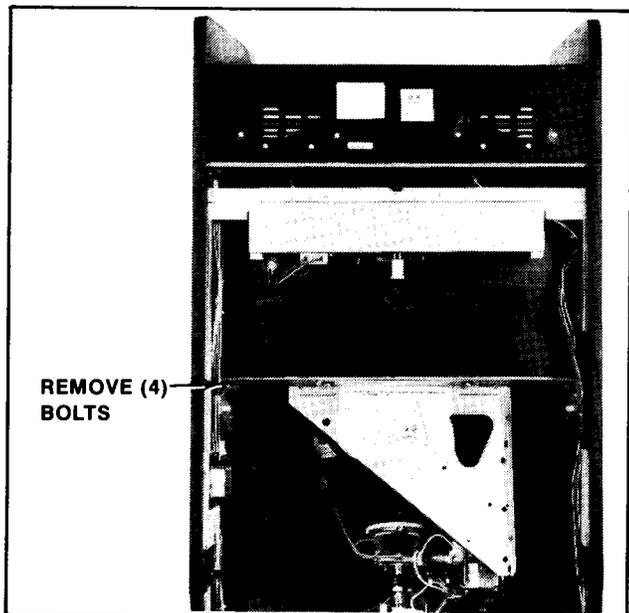

Figure 4-9 Removing Monitor — Upright
1. UPRIGHT MODEL. See Figure 4-9.
- The monitor mounting brackets slide on top of and against two metal guides mounted to the cabinet's right and left sides. The monitor is removed by sliding it out the back of the cabinet. See Figure 4-9.